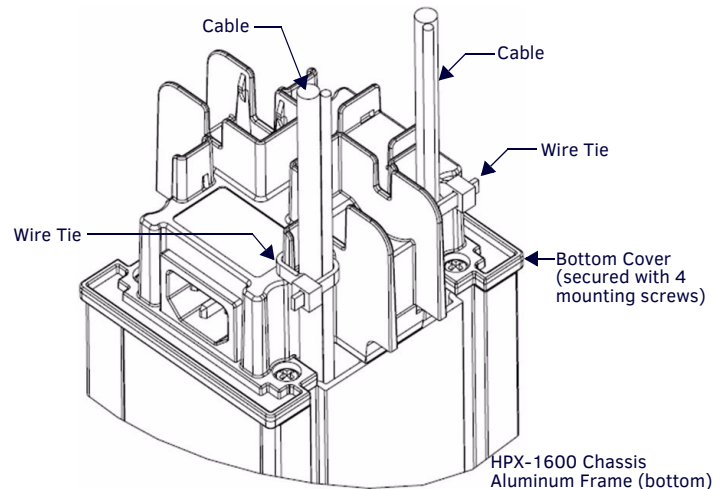

FIG. 4 BOTTOM COVER - INSTALLED WITH CABLES EXITING AND SECURED
2. After the bottom cover is secured using four screws, secure the cables to the corresponding tab near each opening using a small cable tie (FIG. 4).